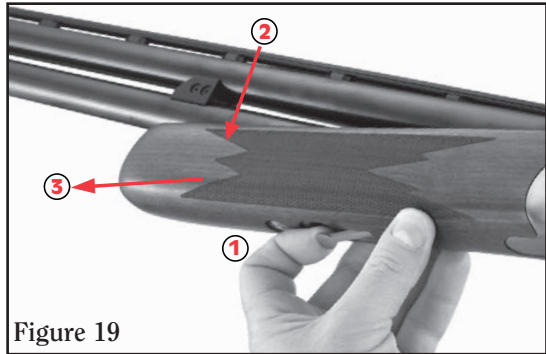

Figure 19
2. Pull out the forend latch lever and separate the forend assembly from the barrels (see Figure 19).